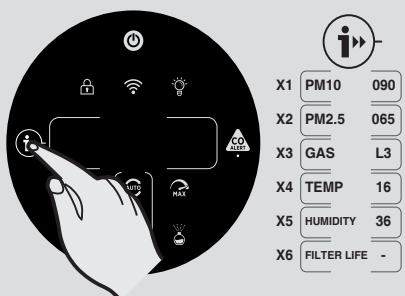

Fig. 7
INFORMATION Function [Fig. 7]:
- Press the INFORMATION button and follow the instructions to reset the Filter Clean function by holding the button for 3 secs, an audible alert will be heard to indicate a successful reset. [Fig. 7]